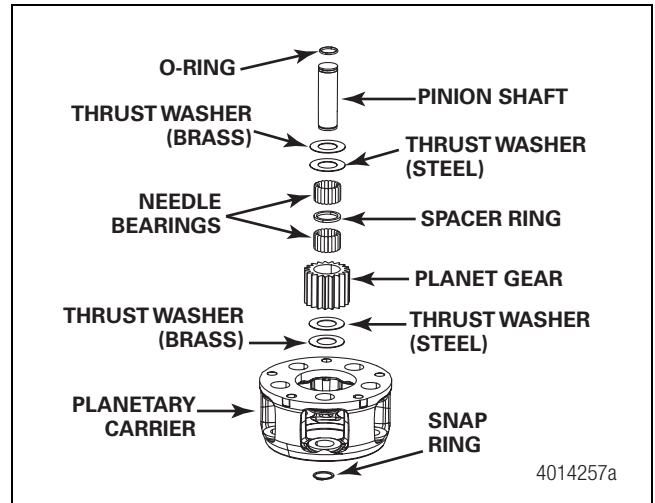

Figure 12.1
2. Install the planet gears and thrust washers into the planet carrier. Align the gears with the pinion shaft bores and verify that the washers are positioned correctly against the housing. Figure 12.1.